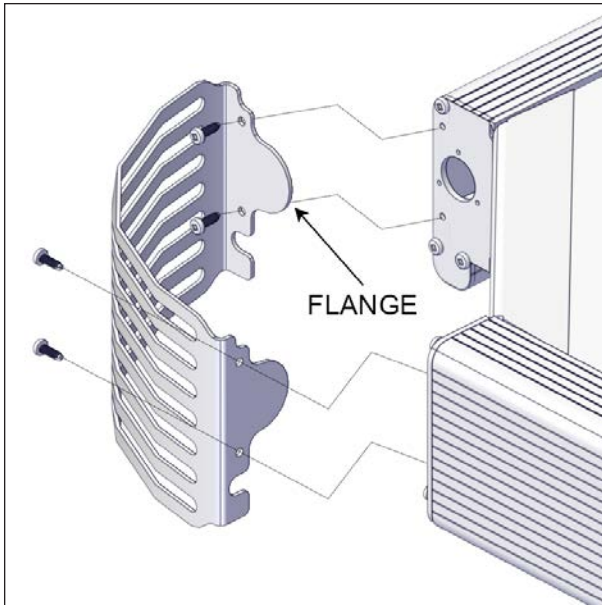

FIGURE 68: OUTSIDE CORNER INSTALLATION
3. Use a #2 6" long Robertson screwdriver to attach the outside corner bracket (left and right) on the corner bracket support by using the #8 X 1/2" screws, see Figure 68.